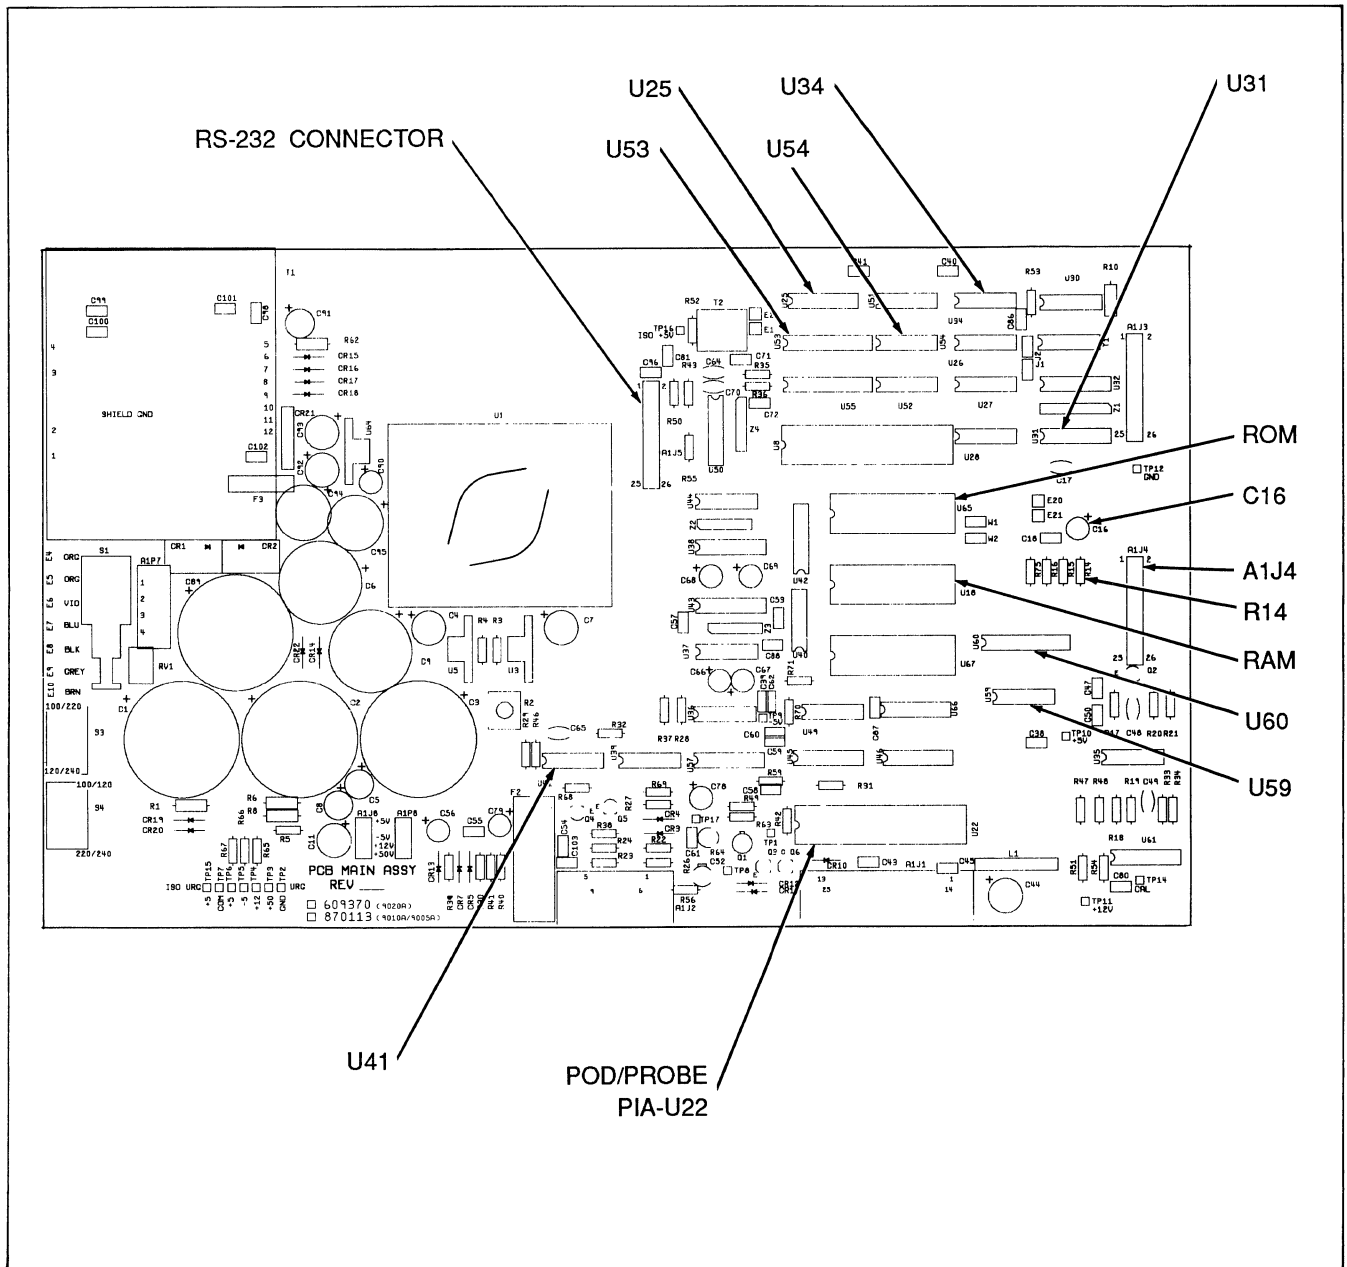

Figure 4-8. Main Assembly Components
probe tip to U31-4 of the UUT. (Refer to Figure 4-8 for the location of U31.) The UUT should beep and display the power-up message FLUKE 9000 POWER-UP OK VER-xx (where xx indicates the current software version number) each time the probe is momentarily connected to U31.
4-54. Failure of the pod/probe PIA typically causes communication problems with the pod and/or the probe since all commands and data move through the PIA. Follow the displayed instructions, setting the probe PULSE buttons both out or both in as instructed. Using the following procedure, verify proper operation of the pod/probe PIA. (Figure 4-8 shows the location of the pod/probe PIA U22, U31, U34, and U25.)
1. Turn off the UUT and remove the Display/Keyboard Assembly connector A1J4 (shown in Figure 4-8) to disable the beeper. Using a clip lead, disable the watchdog timer (U31) by jumping R14 (the end adjacent to C16) to TP12 (gnd). Turn on the tester 9010A and then the UUT.
1. Before proceeding make sure the dc supply is disconnected as instructed. Connect the probe tip of a tester 9010A (to be used as a source of sync pulses) to U41, pin 9 of the UUT; connect the ground lead to TP8 (shown in Figure 4-8).
4-71. A check of the event counter circuit should be made if the troubleshooter displays inconsistent or incorrect counts for known-good UUTs. Check the event counter, U59 and U60, shown in sheet 4 of the Main Assembly schematic and in Figure 4-8, as follows: